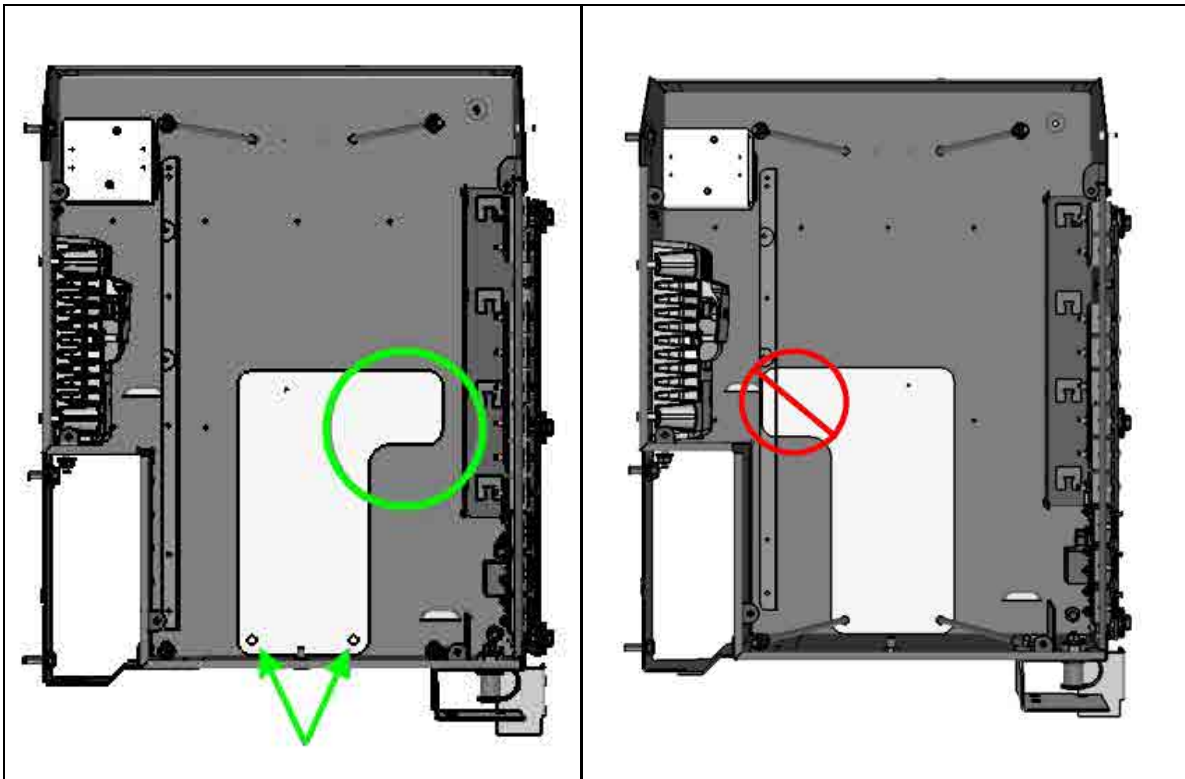

Fig.4 Correctly positionned drilling template shown on the left.
6. Position the drilling template at the bottom of the battery box using the hold-down rods holes (Fig.4).